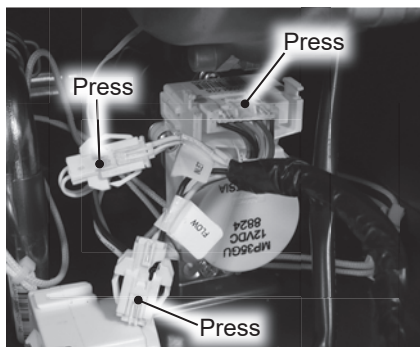

Figure 217 - Locating wiring harnesses
**16** Locate the flow control valve at the bottom right side of the water heater as shown in Figure 217. Disconnect the three (3) wiring harnesses from the valve marked:
**22** Reconnect the three (3) wiring harnesses to the flow control valve previously disconnected in **Step 16**. Confirm wiring connections are secure. See Figure 217.